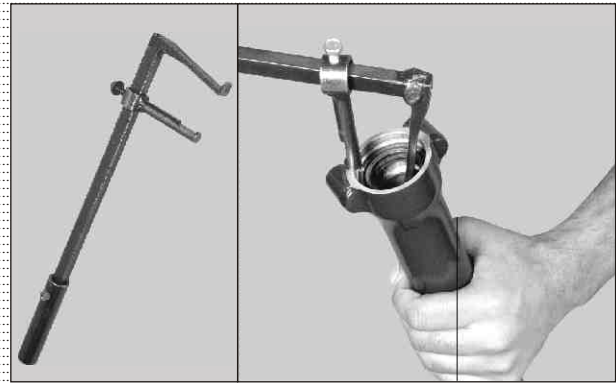

Fig. 1.7
- Used to remove oil seal from the front fork outer tube and crankcase. (Fig. 1.7)